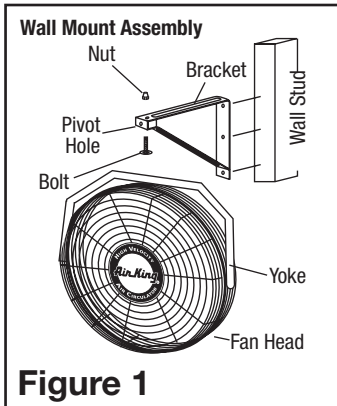
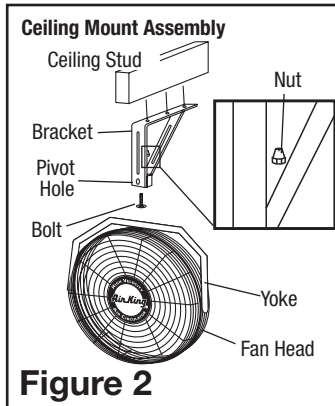

Figure 1
Figure 2
1. Locate the wall or ceiling stud nearest to the desired Fan location. Following the proper mounting diagram, attach the bracket to the stud using three (3) 5/16" diameter x 2" long lag screws (Not Supplied) or appropriately sized bolts and nuts if attaching to "I" beams.
2. Insert Bolt through Yoke, Bracket, Pivot Hole, and into Locknut (**Figure 1**) or (**Figure 2**).